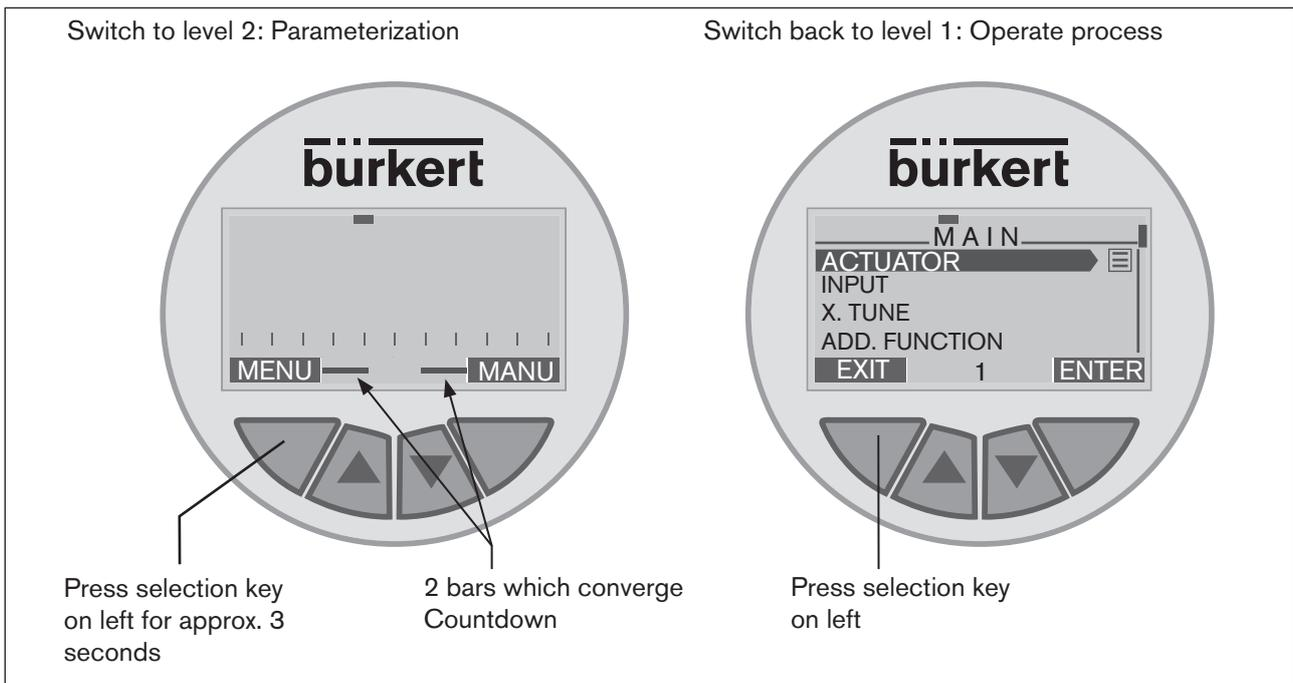

Figure 13: Switch operating level
- To switch from level 1 (Operate process) to level 2 (Parameterization), press the selection key on the left (MENU) for approx. 3 seconds. During these 3 seconds (Countdown) 2 bars converge (see "Figure 13").